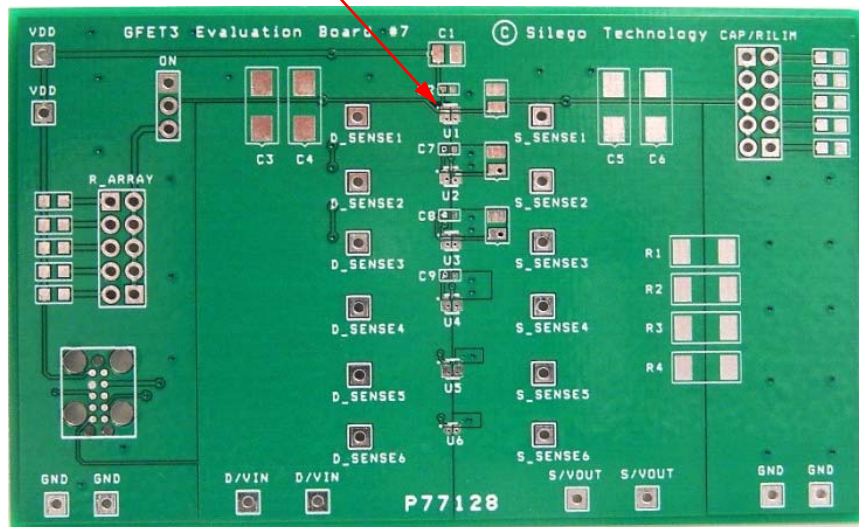

Figure 1. SLG59M1563V Evaluation Board.
2. Since the D and S pins dissipate most of the heat generated during high-load current operation, it is highly recommended to make power traces as short, direct, and wide as possible. A good practice is to make power traces with absolute minimum widths of 15 mils (0.381 mm) per Ampere. A representative layout, shown in Figure 1, illustrates proper techniques for heat to transfer as efficiently as possible out of the device;
A GFET3 Evaluation Board for SLG59M1563V is designed according to the statements above and is illustrated on Figure 1. Please note that evaluation board has D\_Sense and S\_Sense pads. They cannot carry high currents and dedicated only for RDSON evaluation.